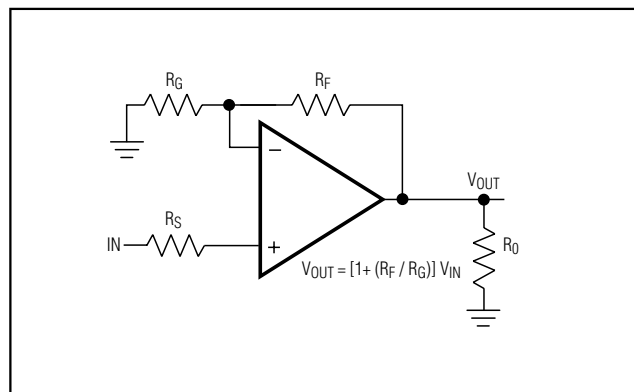

Figure 3a. Noninverting Gain Configuration
**Note:** For high-gain applications where output offset voltage is a consideration, choose  $R_S$  to be equal to the parallel combination of  $R_F$  and  $R_G$  (Figures 3a and 3b):